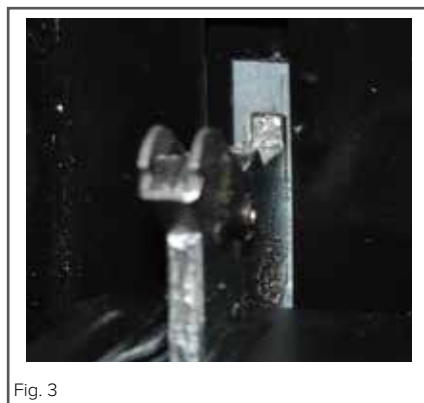

Fig. 3
- Next, ensure the notch on the underside of the hinge sits on the lip of the hinge slot. Open the door fully. Each hinge should be seated in the same way as the hinge in fig. 3. If it is not, follow the steps for removing the door and try replacing it again.